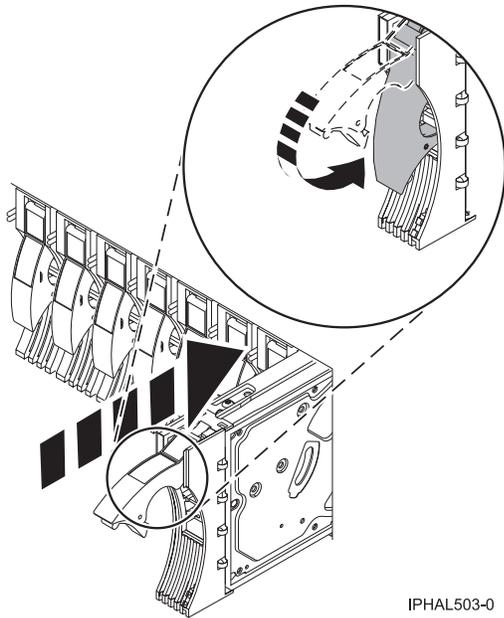

Figure 37. Installing a disk drive
8. Unlock the disk drive handle by squeezing and pulling it out toward you before you install the disk drive. If the handle is not all the way out, the disk drive cannot slide into the system or expansion unit. See Figure 37 on page 65.